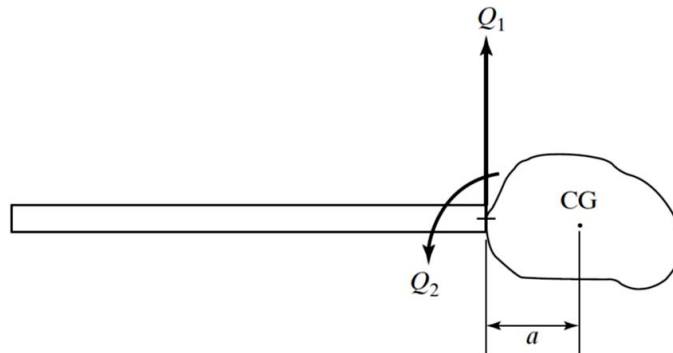

FIGURE P11.15
- 11.15.** A rigid body with mass M and inertia I_c about its center of gravity is welded on to the end of a planar beam element as shown in Fig. P11.15. By writing the kinetic energy of the mass as $\frac{1}{2}M v^2 + \frac{1}{2}I_c \omega^2$, and relating v and ω to \dot{Q}_1 and \dot{Q}_2 , determine the 2×2 mass matrix contribution to the beam node.